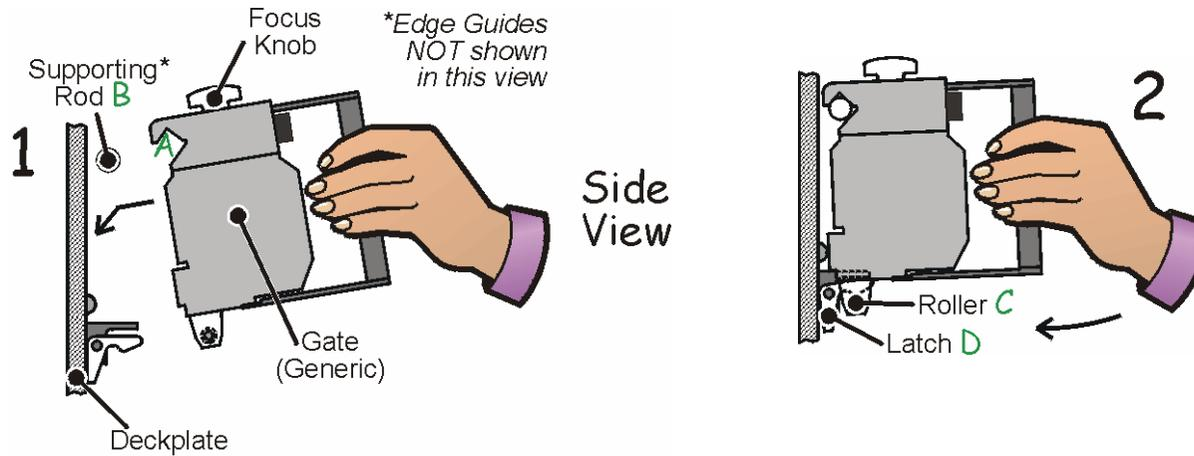

Fig 106
Refer to figures 106 and 107
3.4 (b) Locate top of gate **A** onto supporting rod **B** as shown in diagrams 1 and 2 Figure 106. The edge guides located either side of the rod determine an approximate left-right position.